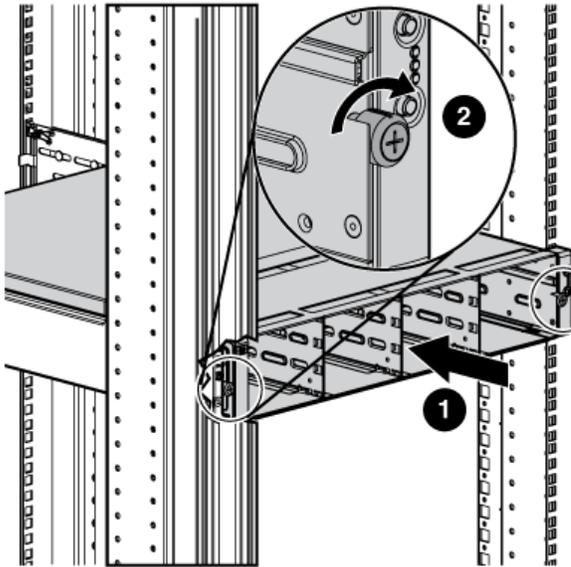

Figure 10 Securing the rear of the enclosure in the rack (view from front of rack)
3. Continue sliding the enclosure into the rack until the front edge is flush with the front of the rack (1, Figure 10). Tighten the enclosure thumbscrews into the rack (2) taking care not to strip the thumbscrews.